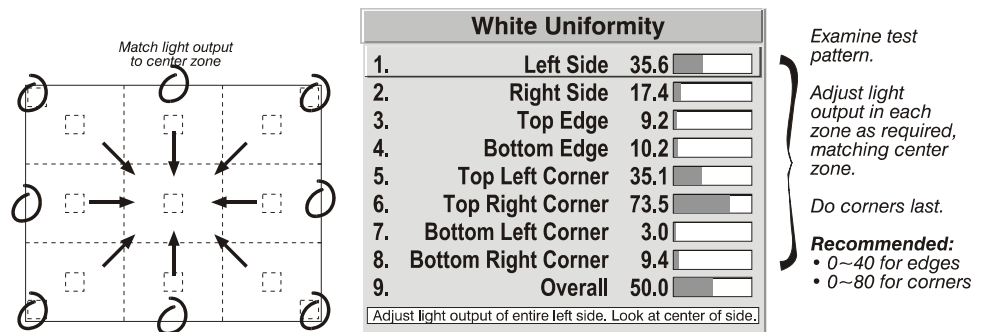

Figure 3.18. Match Zones to Center Light Output
- 3a) For each screen, compare the light output of each *edge* and *corner* to that of the *center*. If any of the areas differ, use the *White Uniformity* menu to match edges and corners to the center as described below (see Figure 3.18). Begin with the screen exhibiting the most obvious variations in light output.